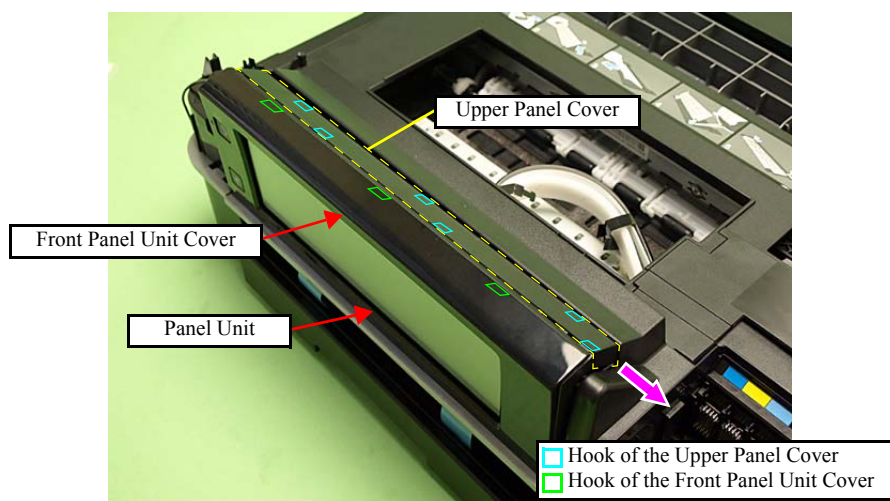

Figure 4-37. Removing the Panel Unit (1)
6. Release the hooks (x3) of the Front Panel Unit Cover. (See Fig. 4-37.)